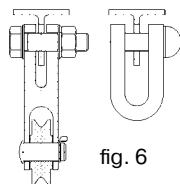

fig. 6
- At the required pulley overhang / shackle according to fig. 6.